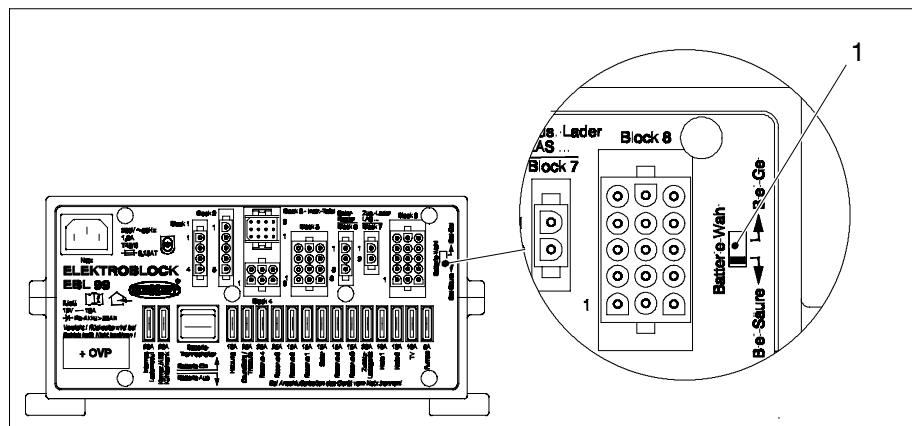

Fig. 1 Battery selector switch
▶ Set the battery selector switch (Fig. 1, Pos. 1) to the correct position using a thin object (e. g. a ballpoint pen):